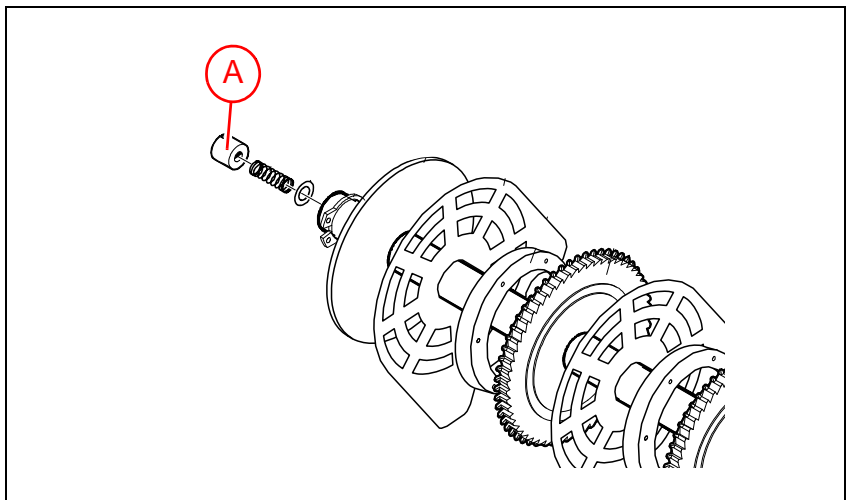

Figure 13-22. Feeder wheel pack end nut
2. If necessary, adjust by turning the nut ('A' in Figure 13-22) clockwise to increase the friction, counter-clockwise to decrease it.